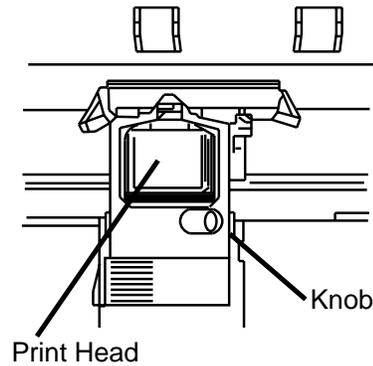

Figure 16-5. Inserting the Ribbon Cartridge
7. Lower the front of the ribbon cartridge over the print head until it snaps into place as shown in Figure 16-5.